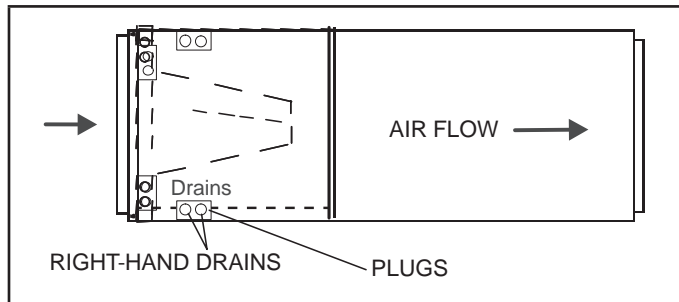

FIGURE 2. Right-Hand Discharge Configuration
- 4 - The horizontal configuration is shown in figure 2.